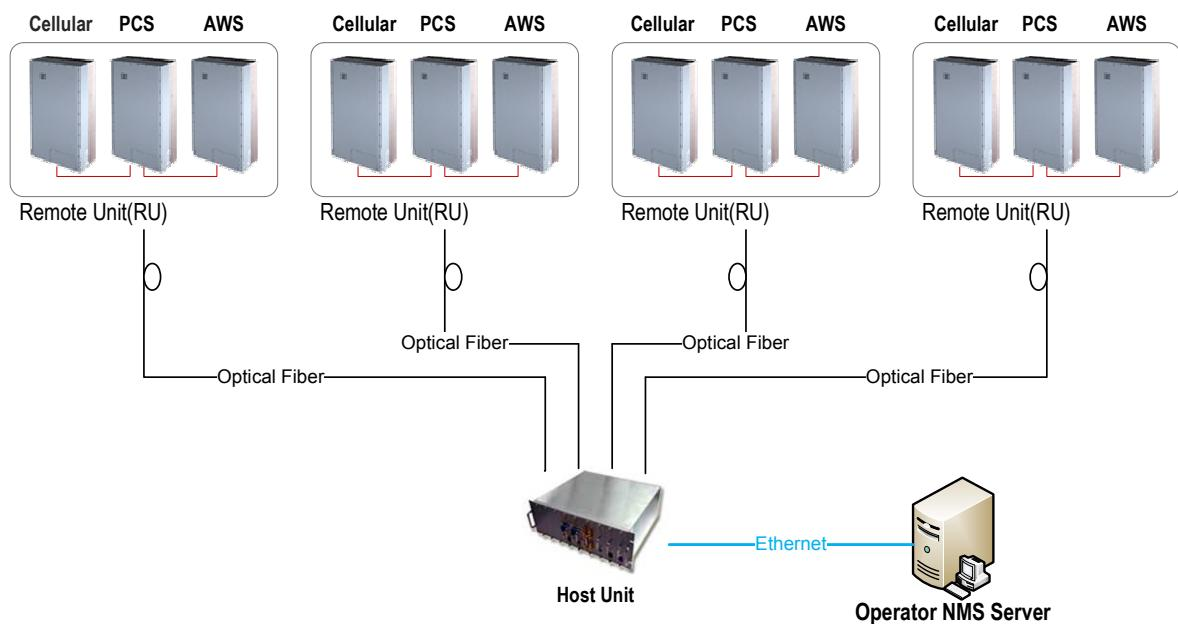

Figure 2-1. System Overview Structure
The basic components of Bravo Tech Inc. mBSC system and their functions are shown in Figure 2-1. A basic mBSC system consists of a Host Unit (HU) and a Remote Unit (RU). The Host unit has multiple slot assembly that mounts in a standard equipment rack. The RU consists of multiple electronic and optical modules for supporting multiple Standards, which mounts in outdoor wall or pole. Control and monitoring functions are provided by the Network Management System (NMS).